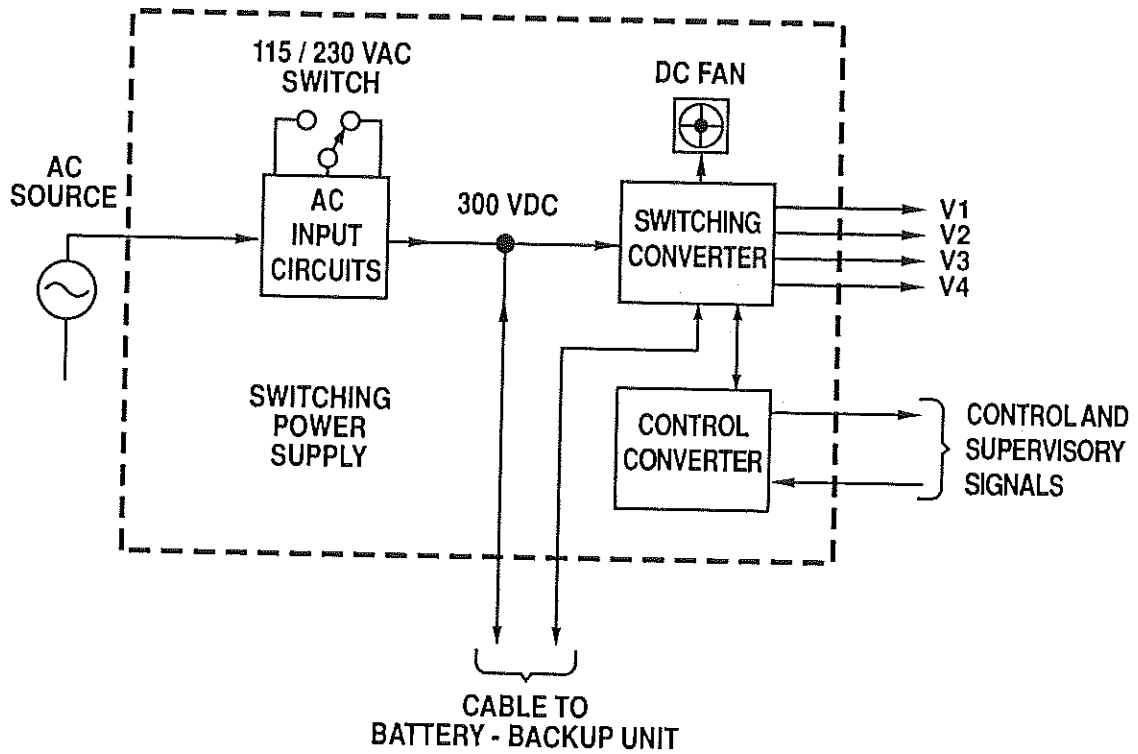

Figure 2. P Series Block Diagram
- 5.1 **Main Output.** The P Series are auxiliary output type modular switching power supplies. See Fig. 2. The main output has an isolated feedback circuit which is used to regulate the output voltage. This is done by means of pulse-width modulation using MOSFET switches operating at 100kHz.